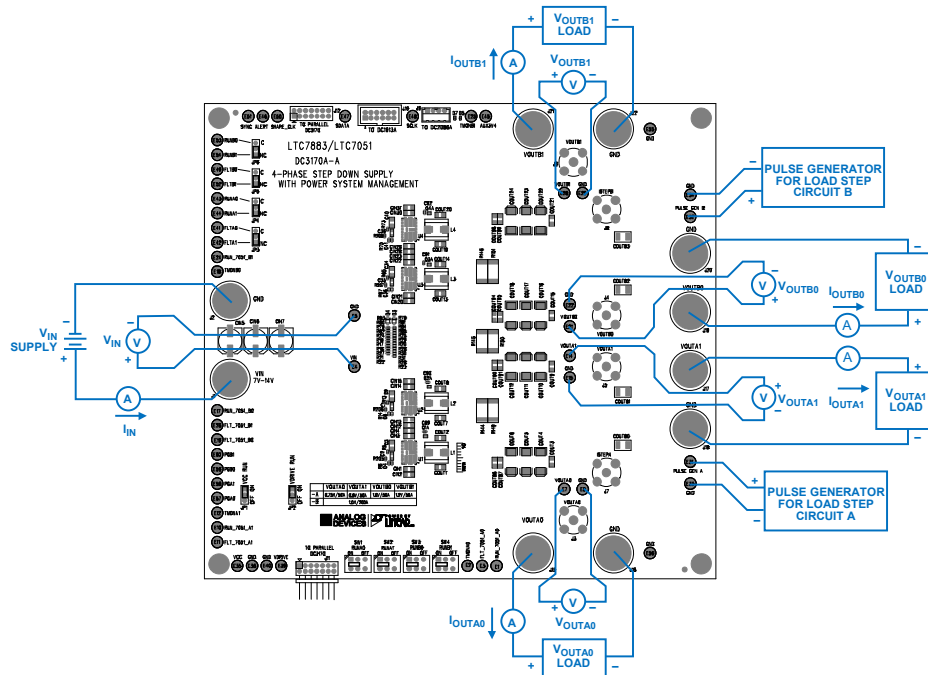
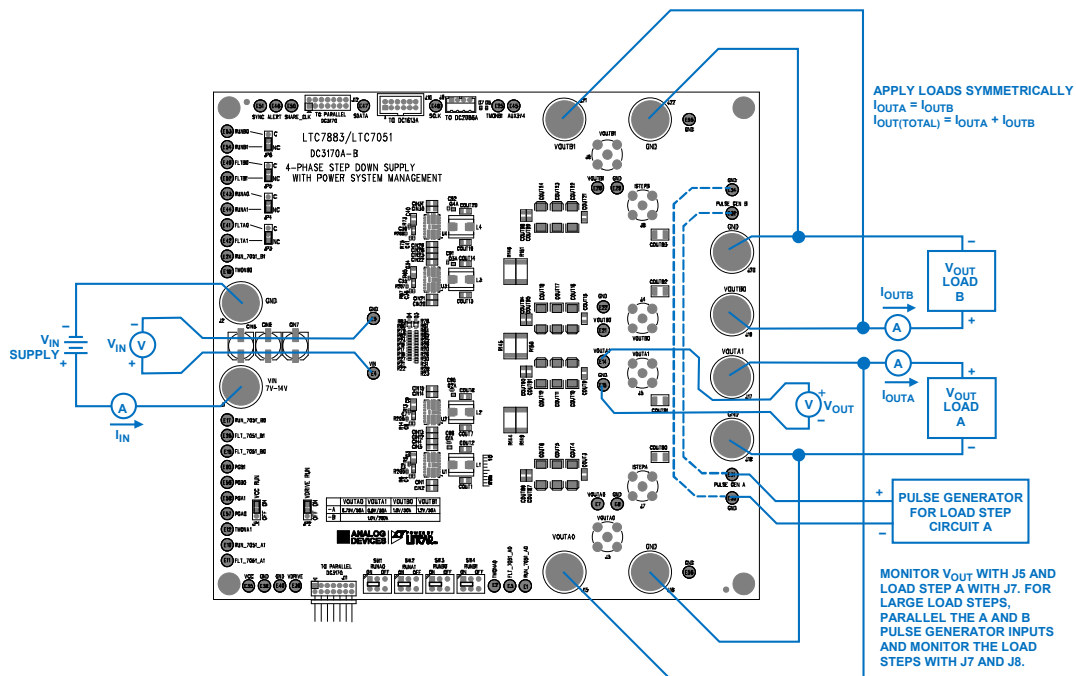

Figure 1. Proper Measurement Equipment Setup for the DC3170A-A
Figure 2. Proper Measurement Equipment Setup for the DC3170A-B
The evaluation setup for the DC3170A-A/-B is straight forward. While reading the instructions below, see either Figure 1 or Figure 2 for the DC3170A-A or DC3170A-B, respectively. Next, follow the procedure below:
Instructions on how to take accurate efficiency measurements are provided below. While following these instructions, see either Figure 1 (DC3170A-A) or Figure 2 (DC3170A-B) and the schematic.
1. See the setup diagrams shown in Figure 1 (DC3170A-A) or Figure 2 (DC3170A-B) and the schematic.